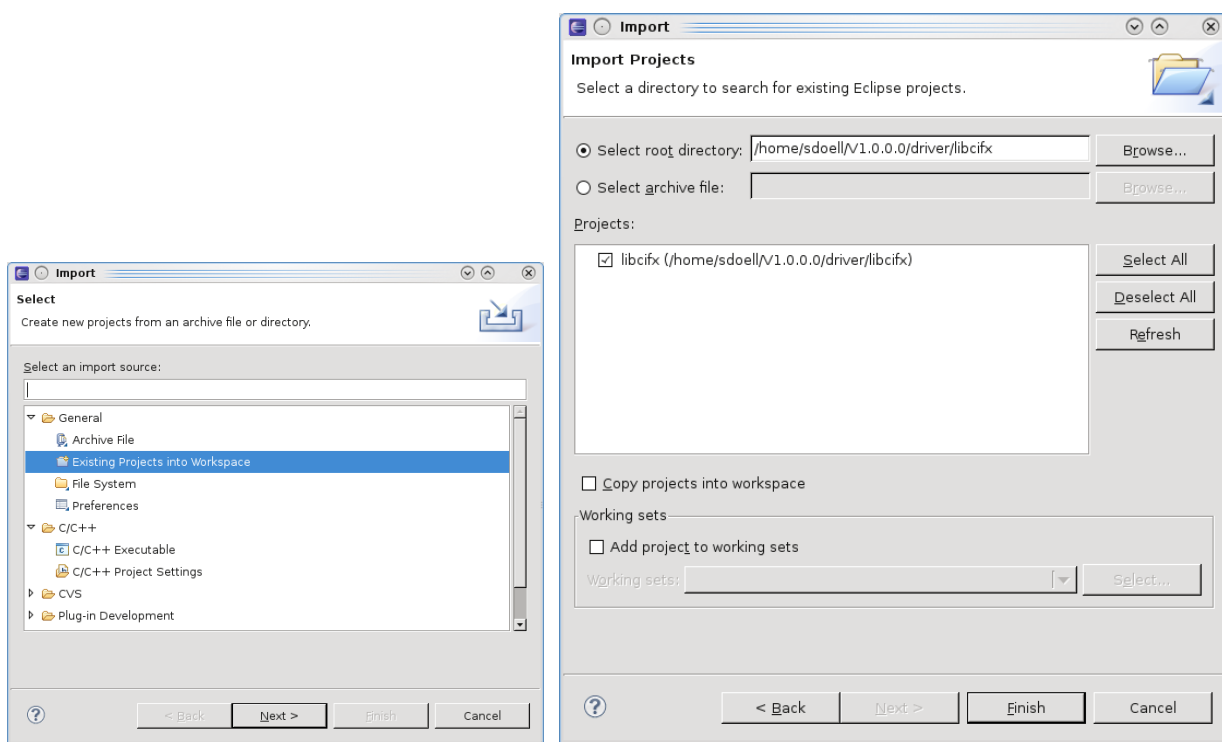

Figure 2: Eclipse IDE – Import project
**Note:** Figure 2 shows a project import of the cifX library V1.0.0.0. The project name depends on the cifX library version.